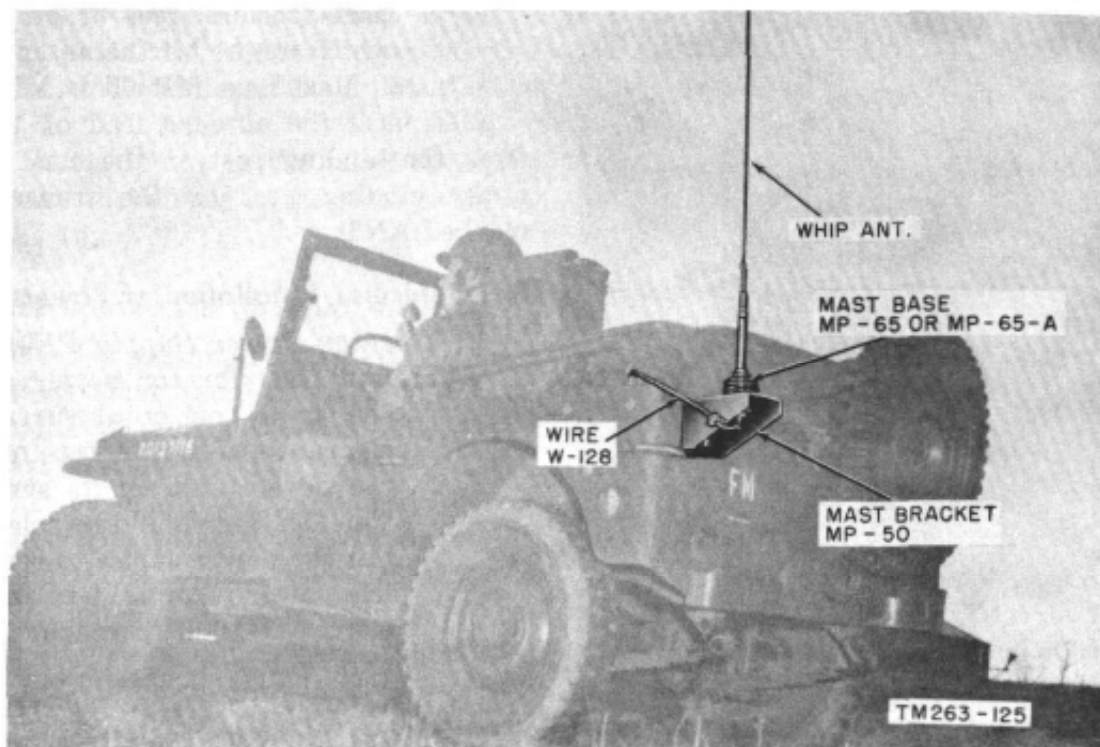

Figure 39. Typical installation of vehicular antenna.
a. Select a location in which the controls will be accessible to the operator, and which is close to the position chosen for the antenna (fig. 39).
a. The vehicular antenna consists of five mast sections (three Mast Section MS-116 or MS-116-A, one Mast Section MS-117 or MS-117-B, and one Mast Section MS-118 or MS-118-A). Mast Base MP-65 or MP-65-A and Mast Bracket MP-50 or other appropriate brackets are required to secure the antenna to the vehicle (fig. 39).